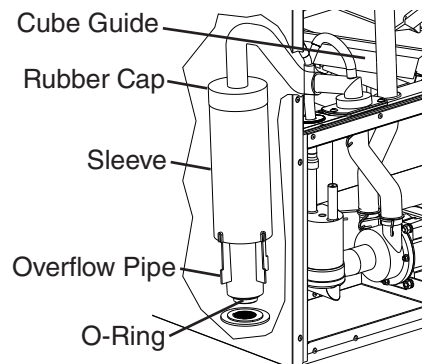

Fig. 23
14c)(2) Remove the rubber cap and sleeve covering the overflow pipe. See Fig. 23.